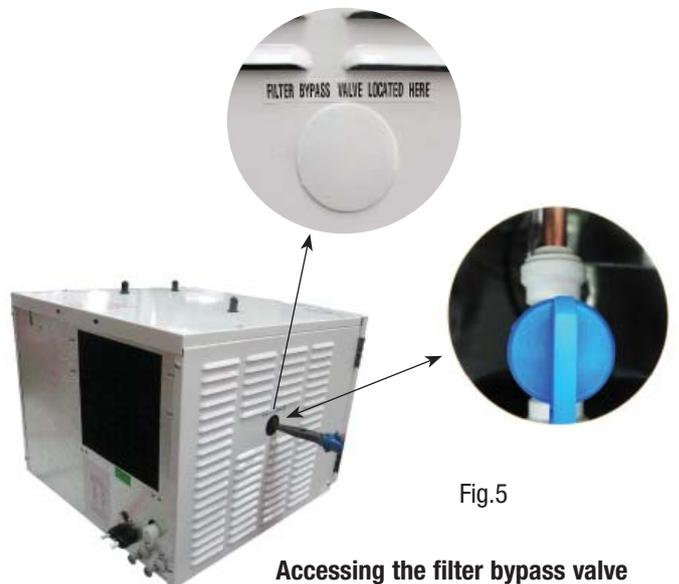

Fig.5
- Access the filter bypass valve, by removing the white plastic plug, located on the Left hand side of the undersink unit (see Fig.5)